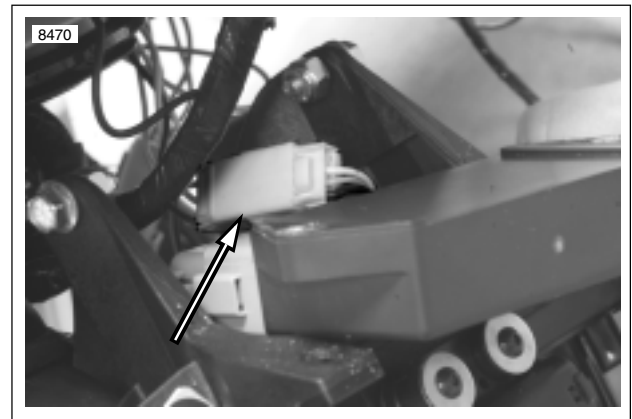

Figure 2-98. Headlight Connector
- a. Loosen headlamp pivot fasteners (1).
- b. Rotate headlight bracket (2) down.
6. See Figure 2-98. Disconnect headlight connection.
4. See Figure 2-98. Attach headlight connector to headlight support bracket.